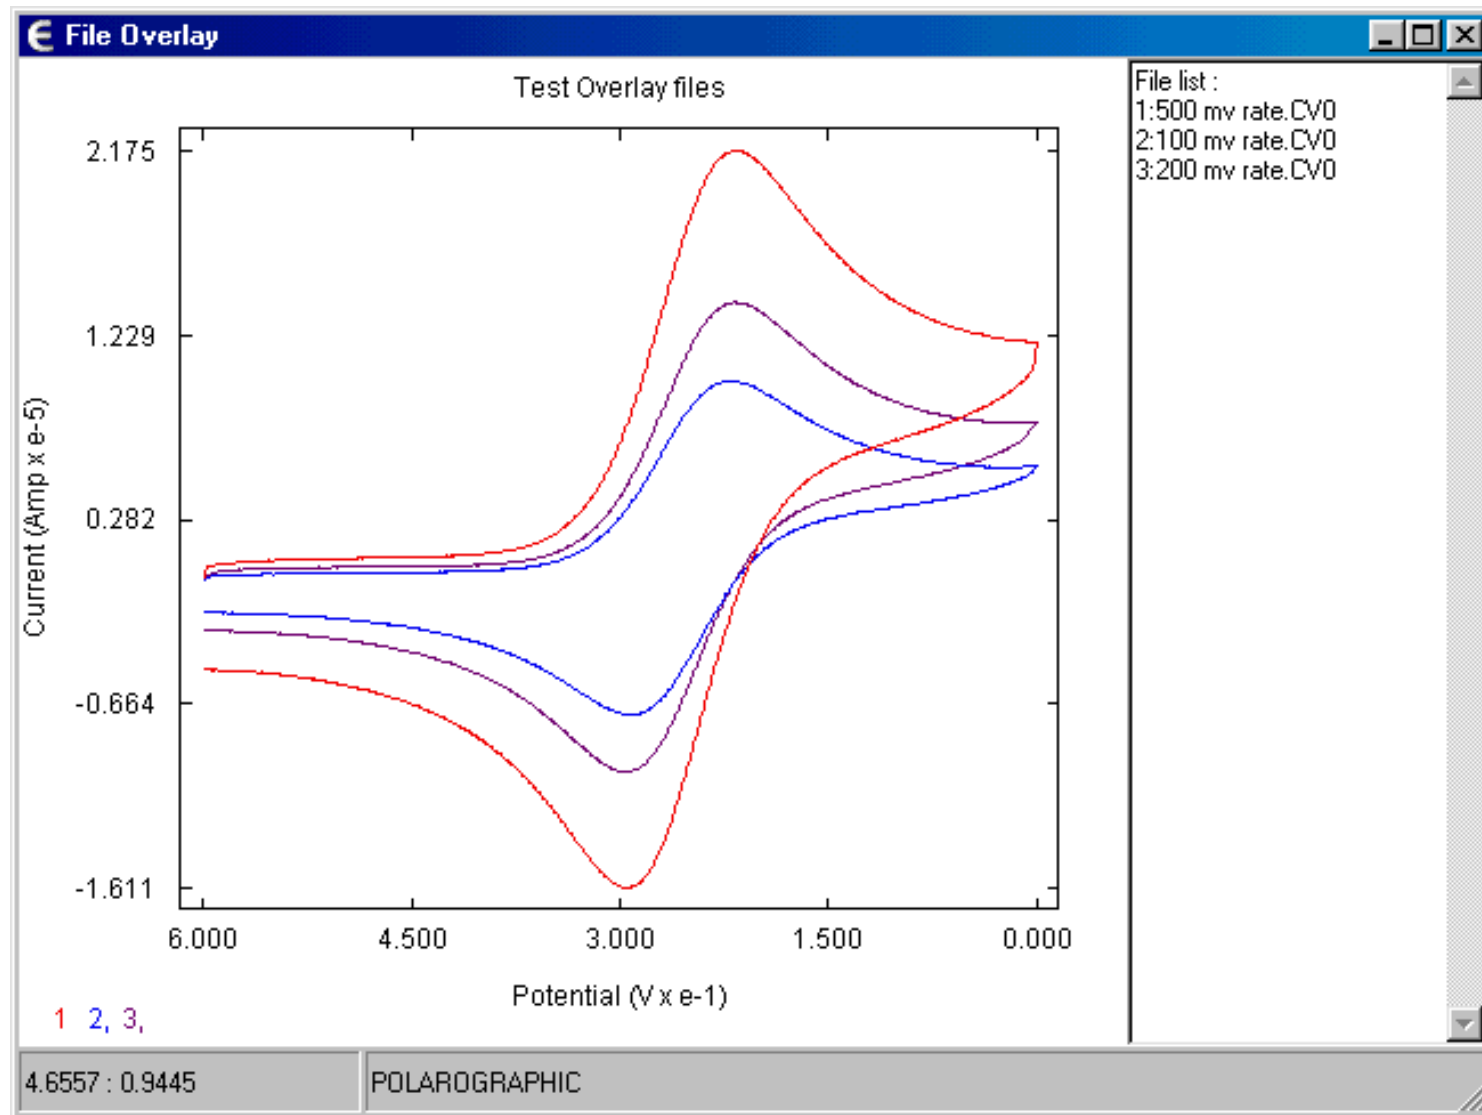

Figure 10. Overlaid cyclic voltammograms.
11. The scaling of the axes is determined by the **Base File**. Therefore, when comparing voltammograms with the same potential range, the voltammogram with the highest current should be selected as the **Base File**. In this example, the cyclic voltammogram run at a scan rate of 500 mV/s should be the **Base File**. Select the name of this data file, and click **New**. This data file is now displayed on the axis set (which remains in the background). The other two data files (cyclic voltammograms run at 100 and 200 mV/s) should now be selected (using standard Windows functions). Once selected, click **Add** to display these data sets on the axis set. Click **Exit** to remove the **Setup** dialog box. The overlaid data sets can now be viewed (**Figure 10**).